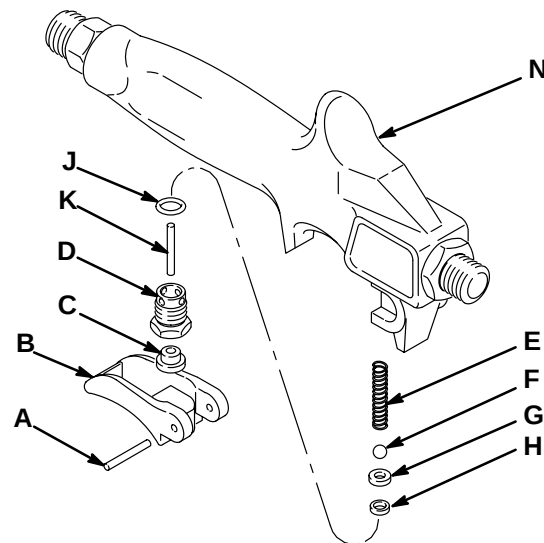

Fig 6
1. Tap out the pin (A) from the trigger (B) and slide the trigger off of the valve (N). See Fig 6.
2. Remove the cap (C). Use a 1/2 in. socket wrench to screw the fluid housing (D) out of the valve. Remove the o-ring (J). See Fig 6.
3. Pull the needle (K) out with needle nose pliers. See Fig 6.
4. Tap the seat (G) out of the valve (N). See Fig 6.
5. Remove the ball (F) and spring (E) from the valve handle. See Fig 6.
16. Slide the trigger (B) into place. Install the pin (A) in the trigger. See Fig 6.